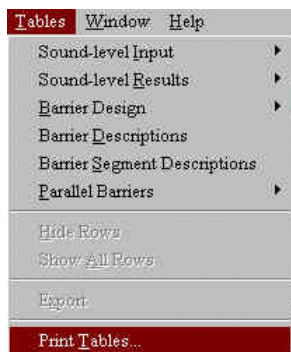

Figure 26. Print Tables menu item.
2.10.3 Print Tables. A new menu item in the Tables menu, Print Tables, has been implemented to allow the user to print all TNM tables at once (see Figures 26 and 27). When the user selects this menu item, TNM displays a **Print Tables** dialog that lists all TNM tables (labeling each as an Input or Results table). The user can individually select tables by highlighting/clicking on the them in the list.